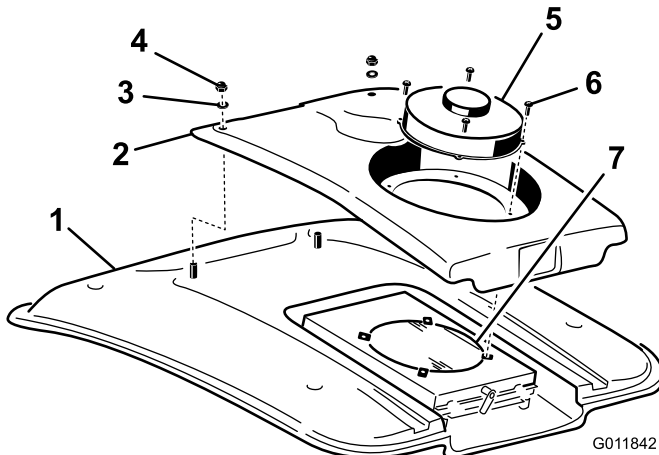

Figure 55
2. Remove the 4 screws securing the fan and the condenser cover to the fan mount (Figure 55).
4. Remove the two nuts and washers securing the front of the condenser cover to the cab roof (Figure 55).
8. Clean the air conditioning condenser thoroughly with compressed air (Figure 55).